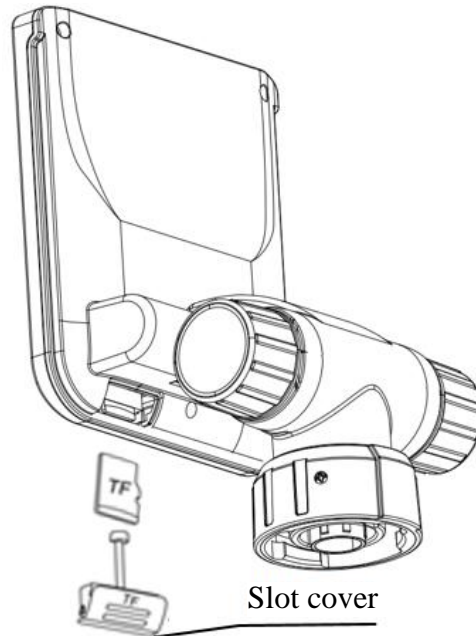

Figure 3.3
2. Remove the slot cover and install the Micro SD card (TF card) into the slot of the veterinary endoscopic image processor. Pay attention to the front and back of the Micro SD card (TF card), as shown in Figure 3.3. After the Micro SD card (TF card) is installed, push the slot cover in the original direction and insert it properly.